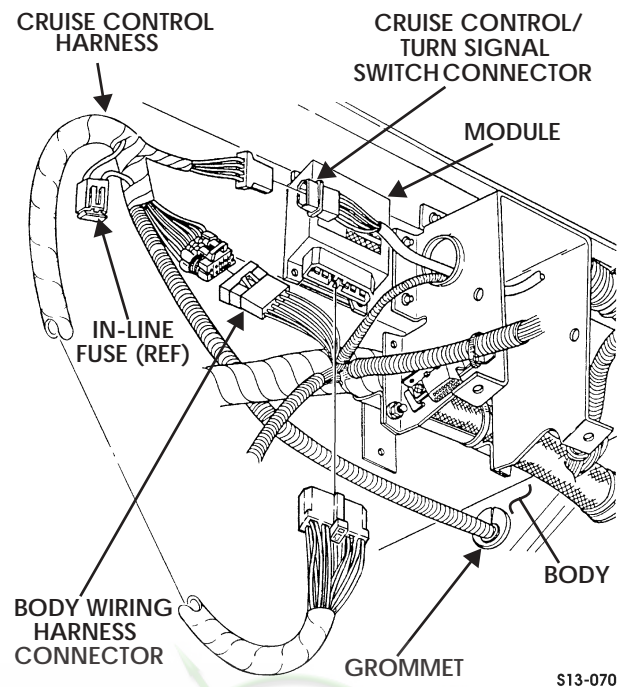

Figure 13-77: Cruise Control Harness
2. Disconnect harness connector from module (Figure 13-77).
5. Connect two harness connectors to actuator connectors (Figure 13-77).